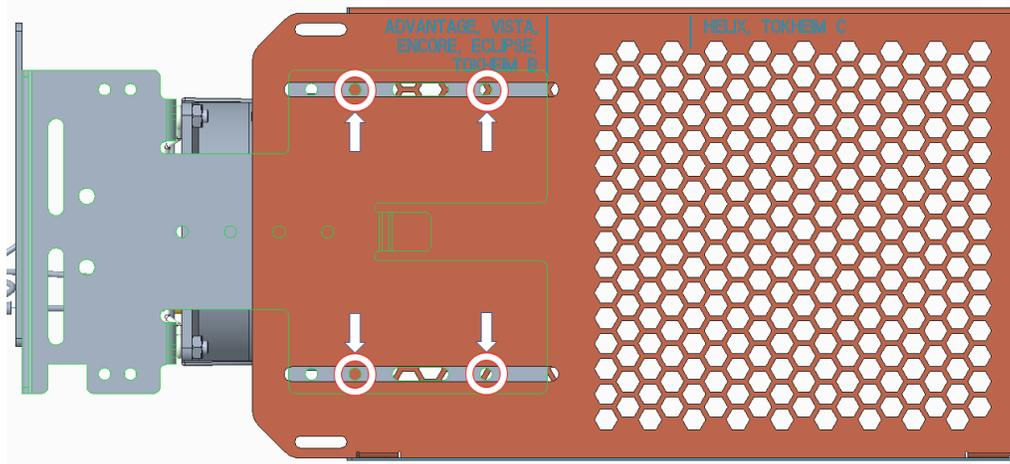

Figure 72
23) Insert and tighten four of the thread forming 006-8626667 screws at the locations shown in Figure 72 to secure the wire guard (497-0522796) to the NCR heater assembly.